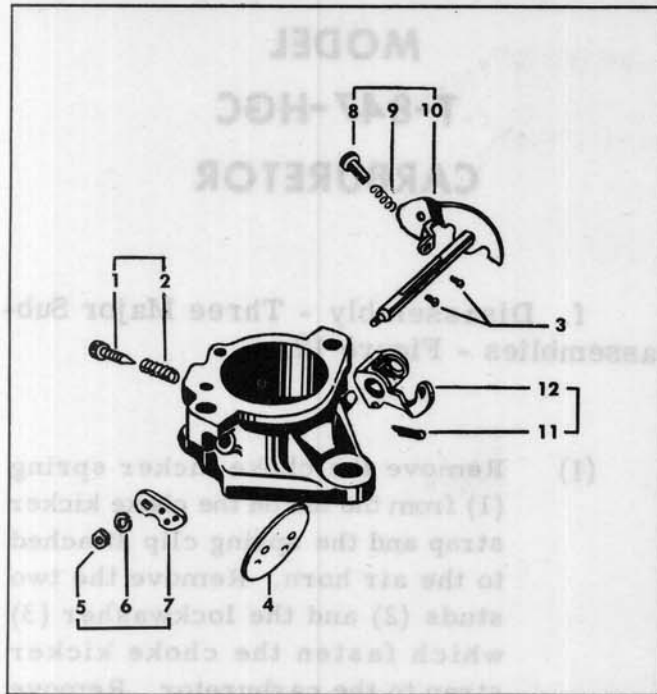

FIGURE 13 – DISASSEMBLY – THROTTLE BODY
e. Disassembly - Throttle Body Assembly - Figure 13